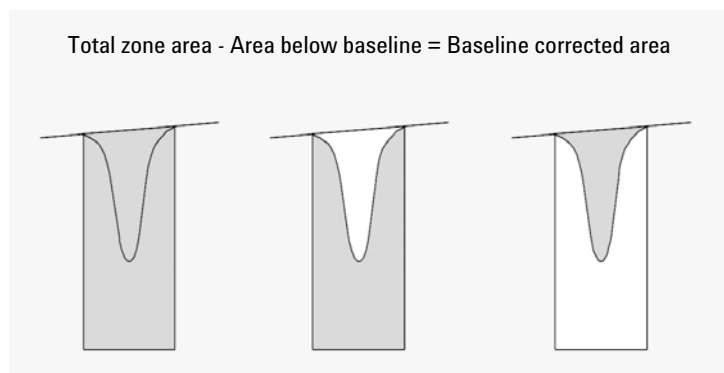

Figure 10 Area Measurement for Negative Peaks
- for tangent (T) peaks, the area above the reset baseline,
- for solvent (S) peaks, the area above the horizontal extension from the last-found baseline point and below the reset baseline given to tangent (T) peaks. A solvent peak may rise too slowly to be recognized, or there may be a group of peaks well into the run which you feel should be treated as a solvent with a set of riders. This usually involves a merged group of peaks where the first one is far larger than the rest. The simple drop-line treatment would exaggerate the later peaks because they are actually sitting on the tail of the first one. By forcing the first peak to be recognized as a solvent, the rest of the group is skimmed off the tail,
- negative peaks that occur below the baseline have a positive area, as shown in Figure 10 on page 27.